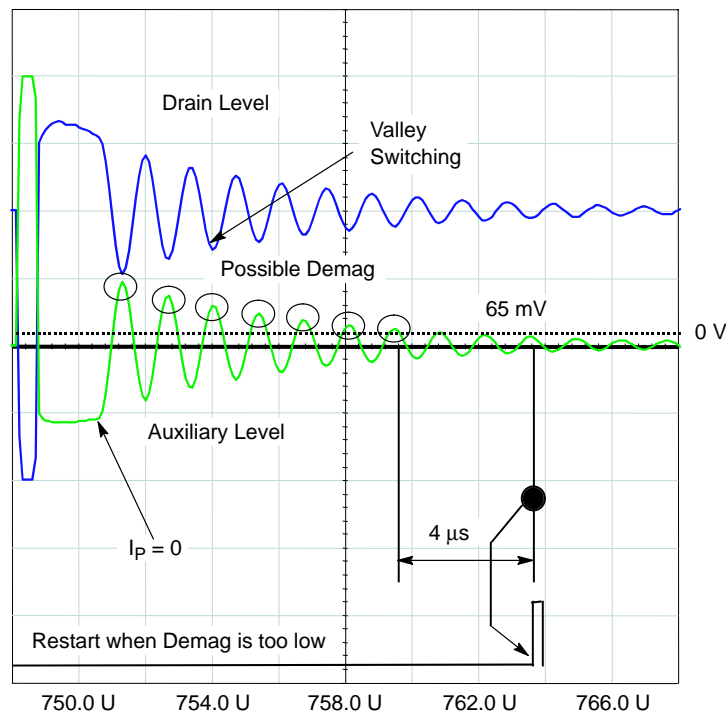

Figure 13. Core Reset Detection is done through an Auxiliary Winding Operated in Forward
As previously said, the operating frequency at nominal load is dictated by the external elements. We can split the different switching sections in two separated instants. In the following text we use the internal error voltage, V_{err} . This level is elaborated in Figure 13. V_{err} is linked to V_{FB} (pin 4) by the following formula:
The auxiliary winding for demagnetization needs to be wired in Forward mode. However, the application note describes an alternative solution showing how to wire the winding in Flyback as well. As Figure 13 depicts, when the MOSFET closes, the auxiliary winding delivers ($N_{aux}/N_p \cdot V_{in}$). At the switch opening, we couple the auxiliary winding to the main output power winding and thus deliver: ($-N_{aux}/N_s \cdot V_{out}$). When DCM occurs, the ringing also takes place on the auxiliary winding. As soon as the level crosses-up the internal reference level (65 mV), a signal is internally sent to re-start the MOSFET. Three different conditions can occur:
3. As can be seen from Figure 13, the parasitic oscillations on the drain are subject to a natural damping, mainly imputed to ohmic losses. At a